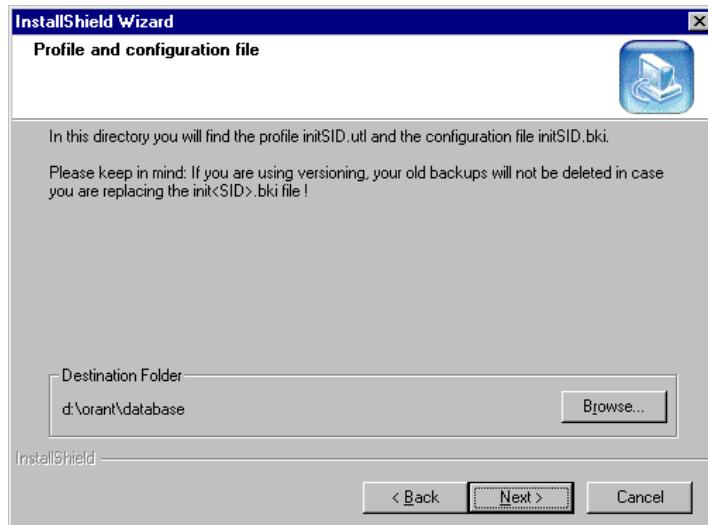

Figure 72. Choose destination for profile files
8. Then, as shown in Figure 72, select the destination folder for the profile and configuration files `init<SID>.utl` and `init<SID>.bki`. It is very helpful to store these files in the same folder where your `init<SID>.sap` profile resides. In our case, is it the `d:\oracle\C31\ dbs` folder.